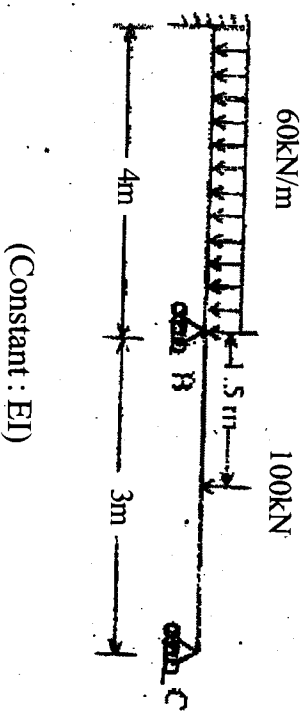

FIG 1
- a) Analyse the following continuous beam (fig.1) using the flexibility method of matrix analysis. Draw BMD.